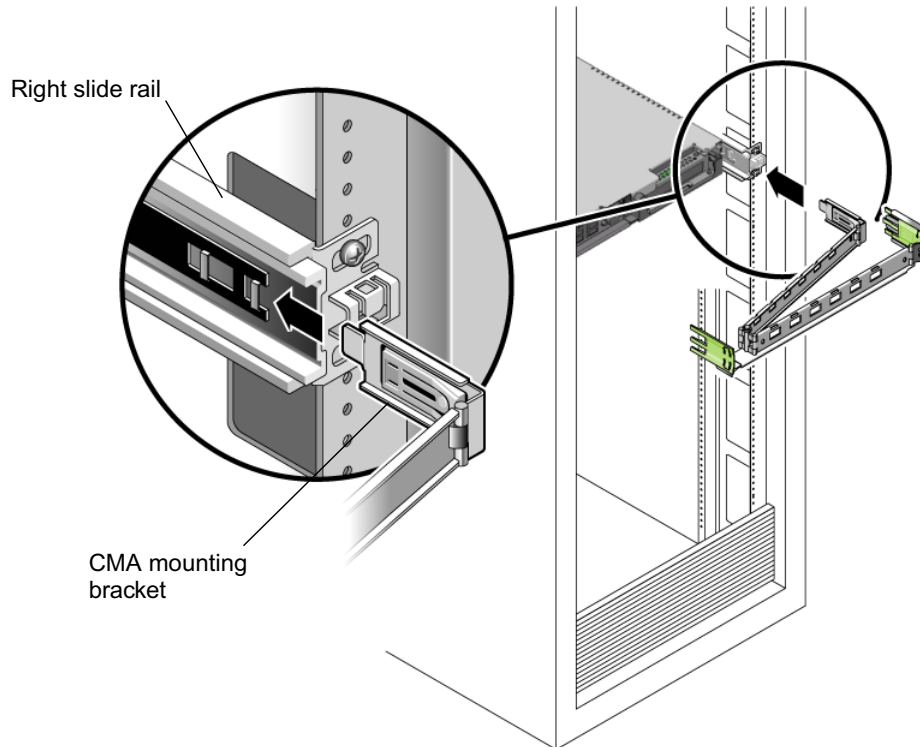

FIGURE C-9 Inserting the CMA Mounting Bracket Into the Back of the Right Slide Rail
5. Insert the CMA's mounting bracket connector into the right slide rail until the connector locks into place with an audible click. (See FIGURE C-9.)